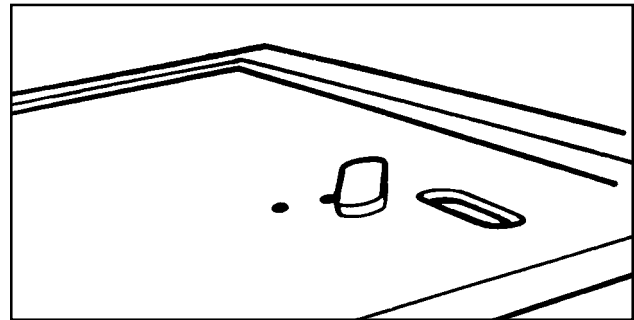

Figure 36. Cut and sand a plug to fit.
- 5: Sand the plug to size. Use a Disc Sander to sand around the edges of the plug with your MARK V Worktable tilted to about a 2° angle so it will be tapered slightly and smaller at the bottom than it is at the top. Start by sanding it to within about 1/64" of your pencil line. Be careful! If you sand it too far, you'll have to make the plug over again (See Fig. 36).